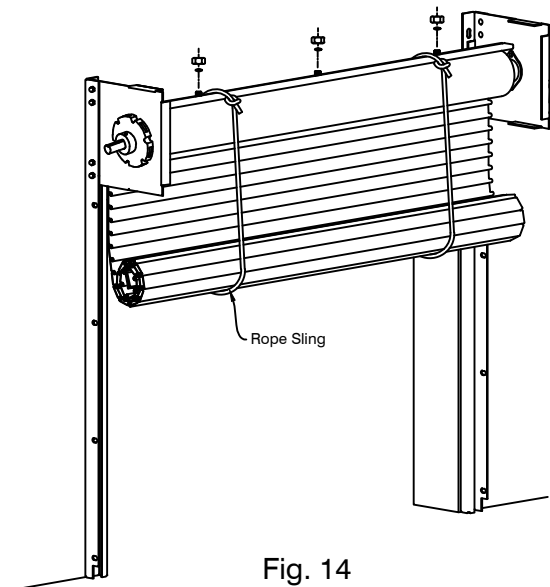

Fig. 14
2) Align the top slat with the mounting bolts, which are welded onto the pipe assembly, then add lock washer and nut to mounting bolt. Tighten nut to ensure curtain is securely fastened to pipe assembly. As shown in Fig. 14. NOTE: Be sure that the curtain is mounted level and aligned in the center of the pipe assembly.